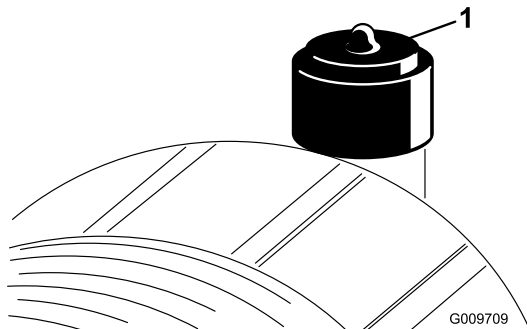

Figure 50
Service the air cleaner filter only when the service indicator (Figure 50) requires it. Changing the air filter before it is necessary only increases the chance of dirt entering the engine when the filter is removed.
6. Reset the indicator (Figure 50) if it shows red.